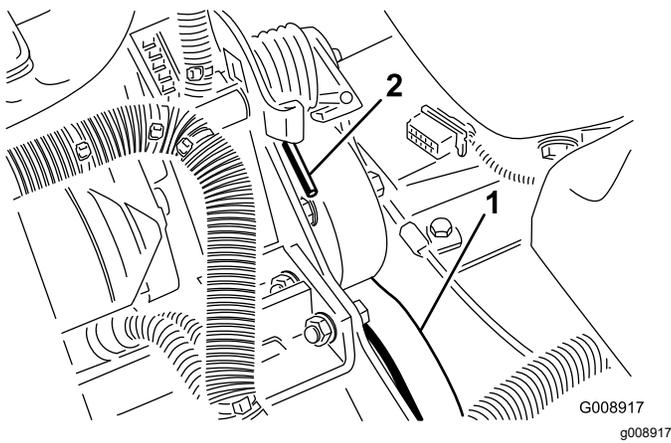

Figure 62
2. Push down and forward on the spring end (Figure 62) to unhook it from the bracket and release tension on the spring.